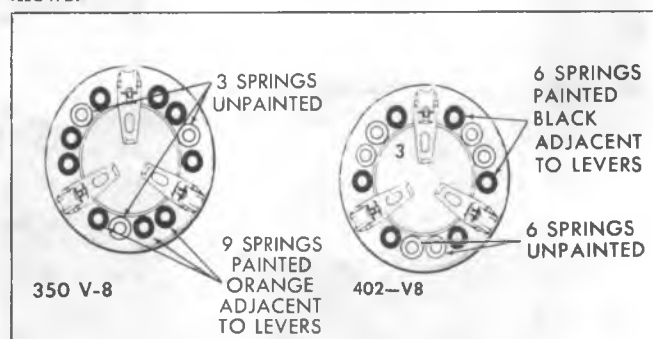

Fig. 8E-Spring Arrangement Diagram
6. Assemble the pressure springs, on the small bosses of the pressure plate in accordance with Figure 8E in order to retain original balance.
**NOTE:** If there are spaces for more springs than specified for the particular assembly, or if two different colors of springs are used, Figure 8E shows the proper sequence. It is very important that each group be arranged in like sequence.